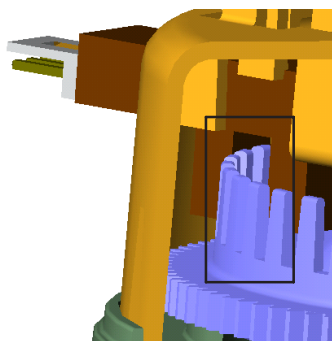

Fig. 10 Water distribution disc
- The cams on the distribution disc interrupt the light beam of the light sensor and pass these pulses to the control (fig.10).
- When the light sensor observes the wide cam on the distribution disc (fig.10 / 11), the initial position is determined.